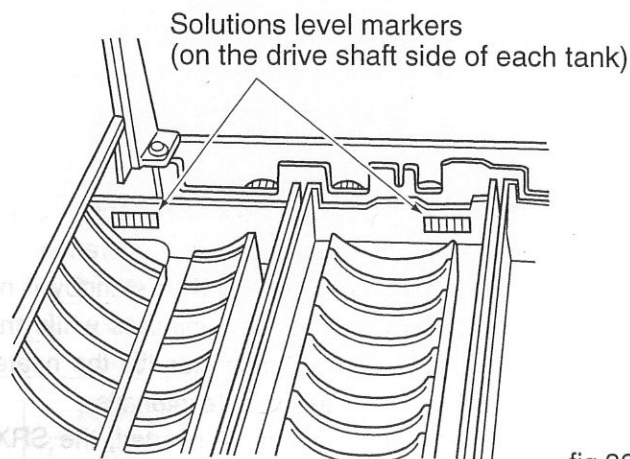

fig.32
3. If the chemical solution level rises above the marker, open the drainage valve until the chemical solution level falls under the marker. (fig.32)